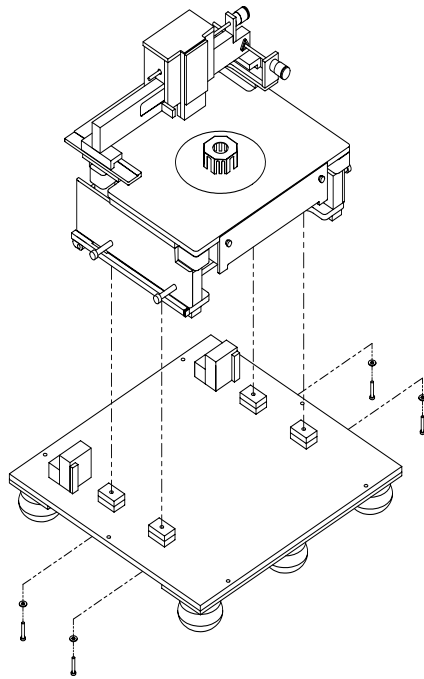

Fig. 12. Hold-down bolts.
1. Unbolt (from underneath the pallet) the (4) bolts holding the probe station to the bottom pallet (fig. 12).